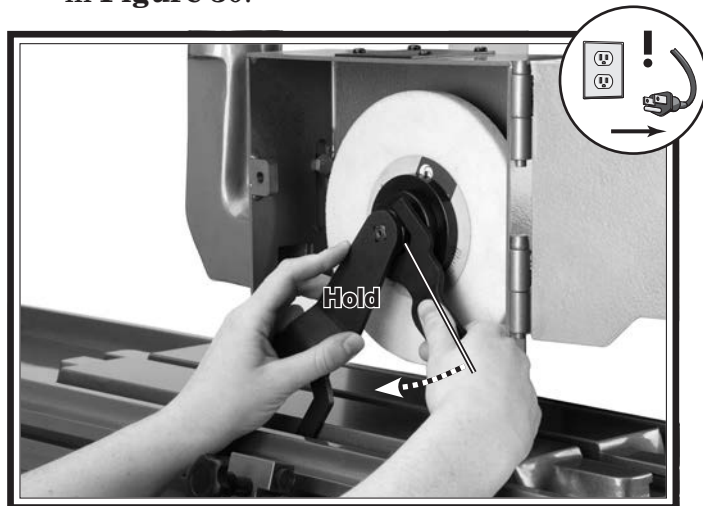

Figure 30. Hub removal.
4. Loosen the barrel nut in the direction shown in **Figure 30**.